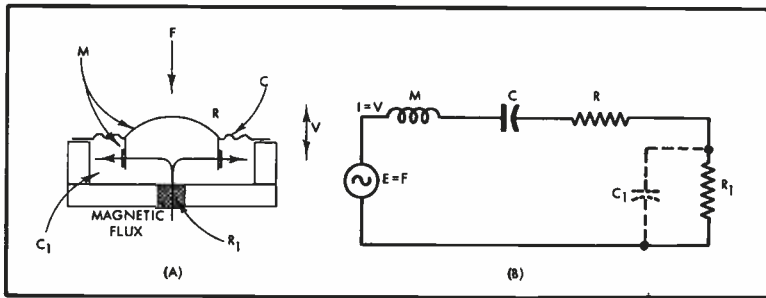

Fig. 3. (A), Schematic of moving-coil microphone with added acoustic damping, and (B), its equivalent circuit.
As a further step towards the more complicated mechanical-acoustical structure of the moving coil microphone, (A) of Fig. 3 shows the same basic mechanical system with added acoustical components. A case over the back of the diaphragm encloses a small air volume. The case is provided with a hole (for example, $\frac{1}{8}$ -in. diameter) which is covered or filled with felt, designated R , in Fig. 3. If the diaphragm moves in the direction of the force F , the enclosed air will be partly compressed and partly forced through the felt. The ratio of the amount of compression to the amount of air moved through the felt will depend on the ratio of volume to the flow re-
sistance of the felt. The compression of the air will establish an additional stiffness for the mechanical system. The air forced through the felt will dissipate energy due to viscous friction and thereby provide additional damping. In the electrical analogue, (B) of Fig. 3, the two acoustic components are represented by C_1 and R_1 . Provided the coupling volume is small enough that its compression can be neglected compared with the amount of air moved through the resistance, only a series resistance R_1 has to be added in the electrical equivalent circuit. In this case the increased resistance decreases the velocity at resonance but provides a substantial range where the velocity is independent of the frequency of the driving force (dashed curve, Fig. 2). In this frequency range the movement of the system is resistance-controlled. If R_1 is further increased, the flat range can be widened at the cost of further reduction of velocity. If the voice coil of such a system moves in a constant magnetic field which has a direction as indicated by the arrows in (A) of Fig. 3, the voltage generated will be proportional to its velocity and therefore independent of the frequency of the